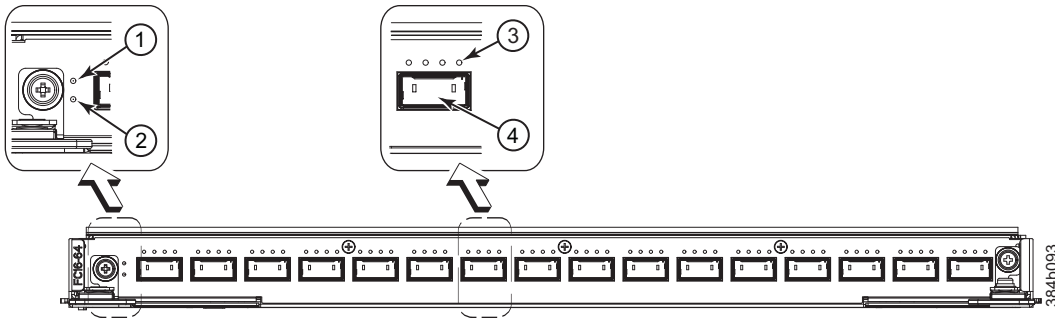

Figure 21. FC16-64 port blade
- Figure 21 on page 58 illustrates the FC16-64 port blade